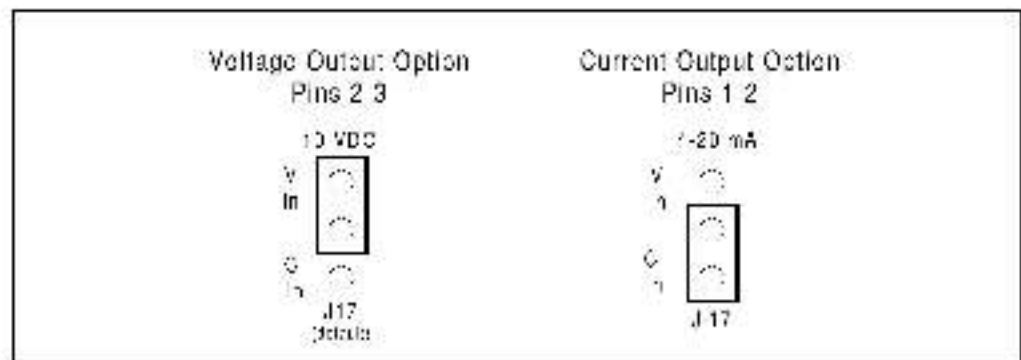

Figure 2.8 – Jumper J17 Settings for Analog Outputs
- Step 8. Locate pin 1 on jumper J17. Move the jumper to the desired setting as shown in figure 2.8.